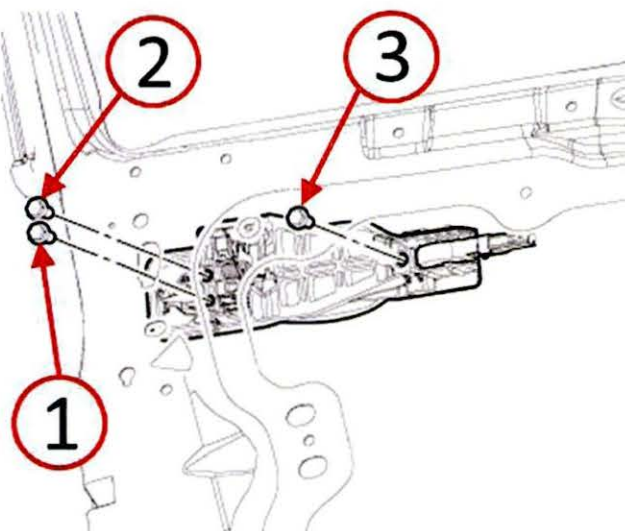
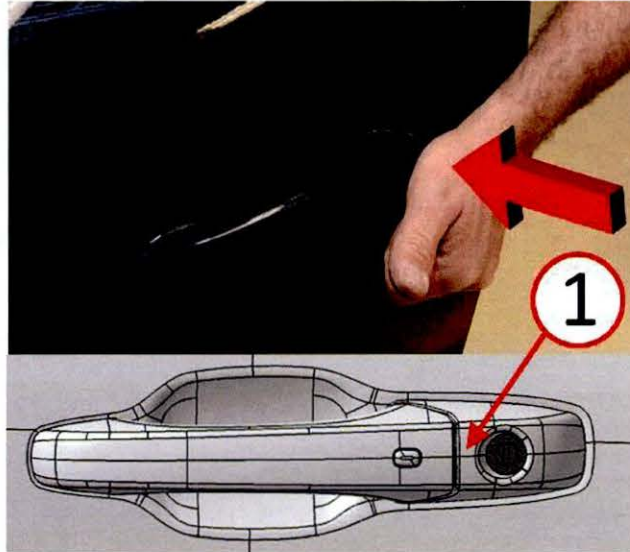
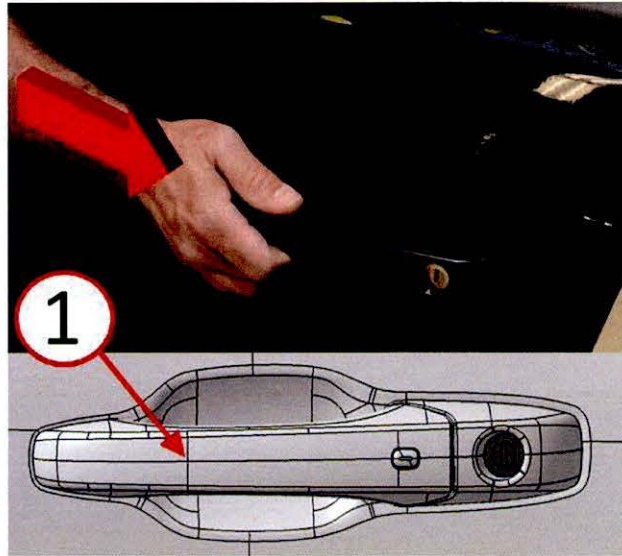

Fig. 5 Door Handle Fasteners
Fig. 6 Position Door Handle Cap
Fig. 8 Position Door Handle
5. Install by hand but do not tighten the door handle fasteners (Fig. 5).
6. While pressing the door handle cap against the door at location (1) (Fig. 6), tighten the lower rear fastener (1) to 7 N·m (60 in. lbs.) (Fig. 5).
7. Tighten the upper rear fastener (2) to 7 N·m (60 in. lbs.) (Fig. 5).
9. While pushing the door handle (1) rearward (Fig. 8), tighten the front fastener (3) to 7 N·m (60 in. lbs.) (Fig. 5).